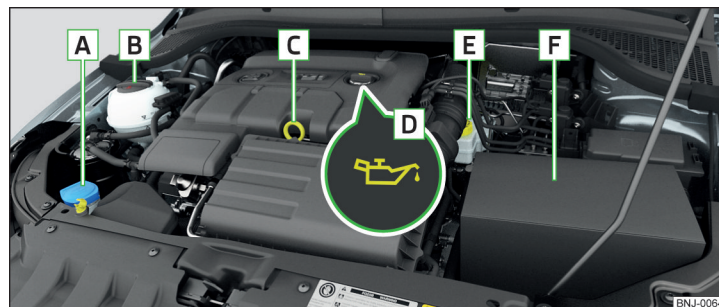

Fig. 166 Basic principle: Engine compartment
Arrangement in the engine compartment » Fig. 166
- Unscrew the cap of the engine oil filler opening » Fig. 166 on page 151.